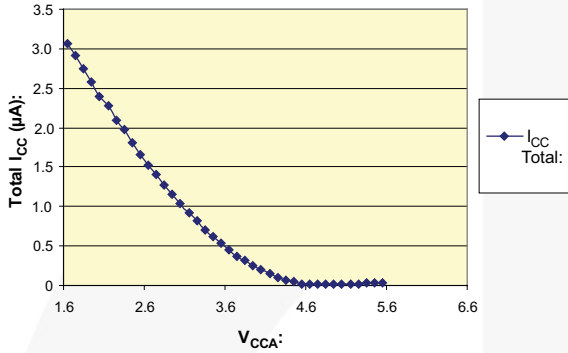
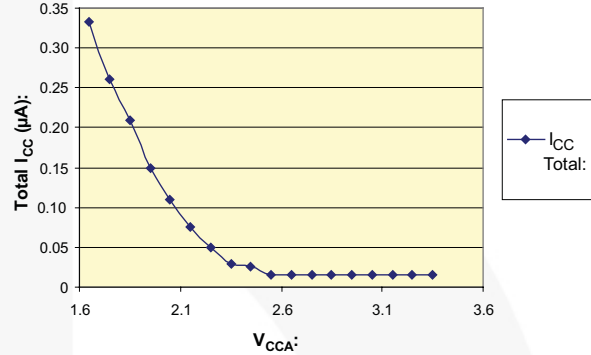

Figure 4. FXM2IC102 I_{CC} vs. V_{CCA} Sweep During no I²C Data Transactions (V_{CCB} = 5.5V. T_A = +25°C)
Figure 5. FXM2IC102 I_{CC} vs. V_{CCA} Sweep During no I²C Data Transactions (V_{CCB} = 3.3V. T_A = +25°C)
The FXM2IC102 typically consumes only 230nA during “no I²C data transactions” when V_{CCA} = 1.8V and V_{CCB} = 3.3V. See Figure 4 and Figure 5 for more details.
In a typical Mobile Internet Device (MID) application, I²C data transactions are idle the vast majority of the time. Therefore, it is critical that the I²C translator burns as little current as possible when no data transactions are passing across the I²C bus. Figure 4 and Figure 5 plot the typical FXM2IC102 I_{CC} performance across the entire voltage translation range during no I²C data
transactions. In Figure 4, V_{CCB} = 5.5V and in Figure 5, V_{CCB} = 3.3V.
For example, to translate from 1.8V to 3.3V (Figure 5), with no I²C data transactions present, the total I_{CC} of the FXM2IC102 is typically only 230nA. In effect, the FXM2IC102 virtually powers itself down when the I²C bus is idle.
- Figure 4 depicts the typical I_{CC} of the FXM2IC102 when translating from 5.5V on the V_{CCB} supply to a range of 1.65V – 5.5V on the V_{CCA} supply.
- Figure 5 depicts the typical I_{CC} of the FXM2IC102 when translating from 3.3V on the V_{CCB} supply to a range of 1.65V – 3.3V on the V_{CCA} supply.